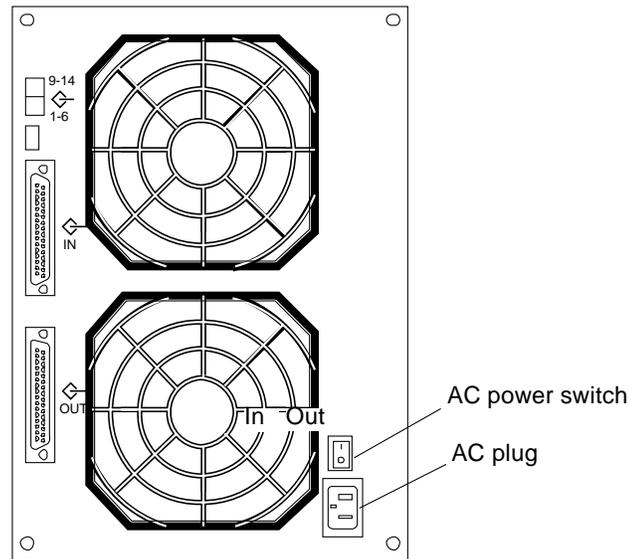

Figure 7-14 SPARCstorage MultiPack AC Power Switch and AC Plug
5. Power off the detached MultiPack (Figure 7-14).
2. After the system administrator has prepared the MultiPack for servicing, turn off the AC power switch on the MultiPack, (Figure 7-14).
- a. **Ensure that the SPARCstorage MultiPack AC power switch is off (Figure 7-14).**